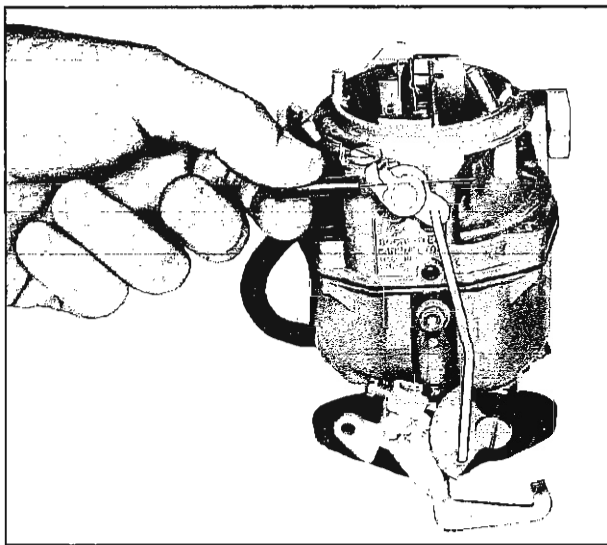

Fig. 6B-29 Trip Lever and Choke Rod Lever Clearance
7. Install connecting rod to vacuum break diaphragm plunger by rotating end of rod so squirt on rod enters notch in plunger, ends of rod face inward (Fig. 6B-31). Install other end of rod into slot in choke lever. Install horseshoe clip in groove in rod end and pinch together.